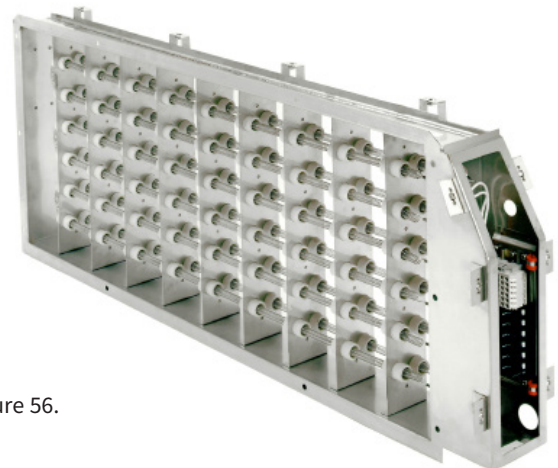

Figure 56.
**Railway and Subway Applications** – Tough rail car industry standards have been developed to overcome the severe vibration, shock, high operating voltages, and voltage swings routinely encountered. For more than 45 years, Indeeco has built heaters to meet these standards, using heavy gauge corrosion resistant steel frames and oversized coil and terminal support bushings (Figure 56).